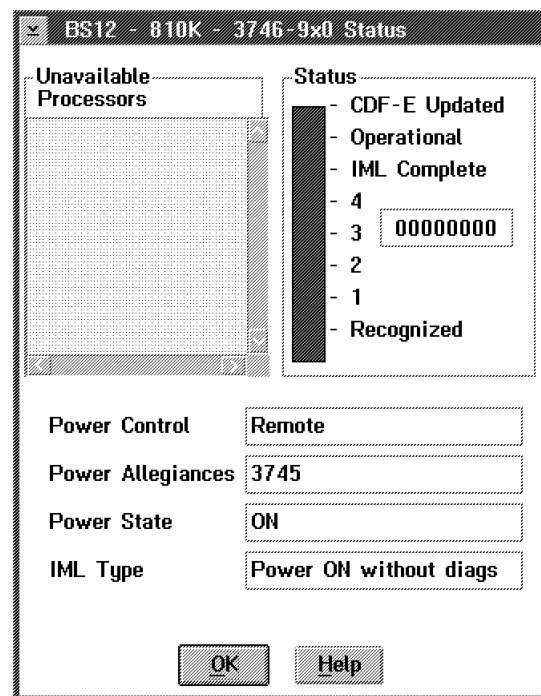

Figure 2-7. 3746-9x0 Status Display
2. Click on **status** pulldown option, the following screens are displayed (see Figure 2-7 for the 3746-9x0 and Figure 2-8 on page 2-6 or Figure 2-9 on page 2-6 for the 3745 X1A or 17A).